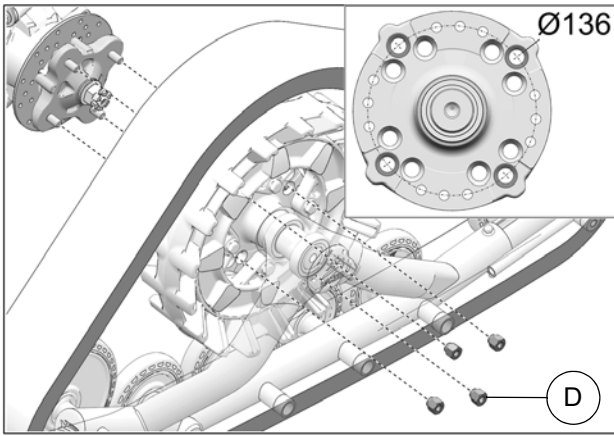

Fig. 19
7. Secure undercarriage to front hub using the lug nuts (D) provided. Use bolt circle Ø136mm. See Fig. 19